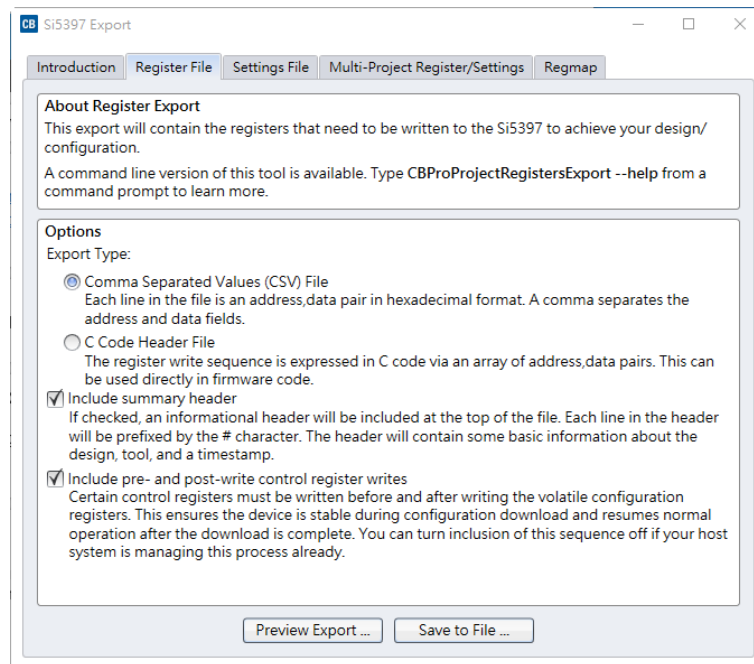

Figure 2-15 Save Register Files
- In the Si5391 Export dialog, select “Register File” tab. Then, select “Comma Separated Values (CSV) File”, and check both items “include summary header” and “include pre- and post-write control register writes” as shown in **Figure 2-15**. Finally, click “Save to File...” button to save file as **Si5391B-Registers.txt**.